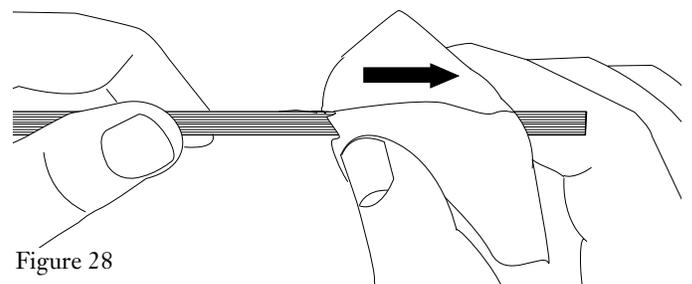

Figure 28
The RST-000 has nine positions which accommodate ribbons from 4 to 36 fibers, as indicated by the sum of the stacked numbers on the tool (e.g., 2/2 = 4-f, 12/12= 24-f, 12/24=36-f – see Figure 28).
*If desired, this overhang can be removed or minimized for the length of ribbon that will be placed into the handler for the mass-fusion splicer. Remove the overhang by using a lint-free tissue or cloth soaked with filling compound remover or isopropyl alcohol to rub the edge of the ribbon with the overhang; Rub in one direction toward the ribbon's free end along the ribbon's long axis as shown in Figure 28.*